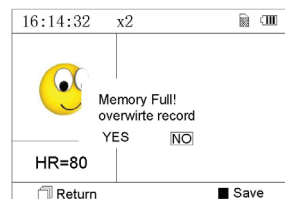

Figure 3-10
4) When the storage space is full, the device will indicate and prompt that "Memory full! Overwrite record?" with a display of "Memory Full! Overwrite record" mark as shown in Figure 3-10. Meanwhile, from now on, it won't store the new record until the user manually deletes the unnecessary data or upload the records to PC to free some memory.